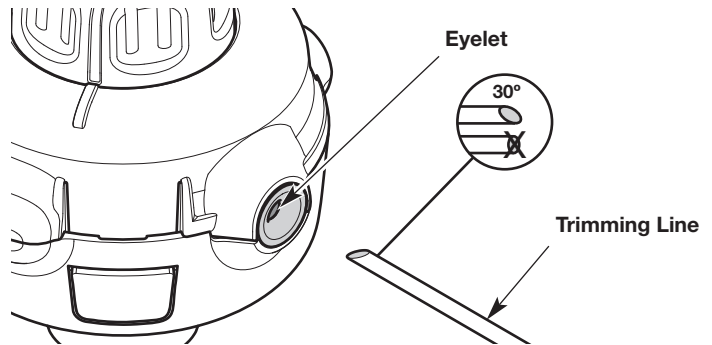

Fig. 19
- Cut two 7-foot (2.1 m) lengths of new trimming line. Cut one end of each line at a 30 degree angle (Fig. 19).
- Insert one of the lines into an eyelet (Fig. 19).
- Insert the end that was cut at a 30 degree angle (Fig. 19).